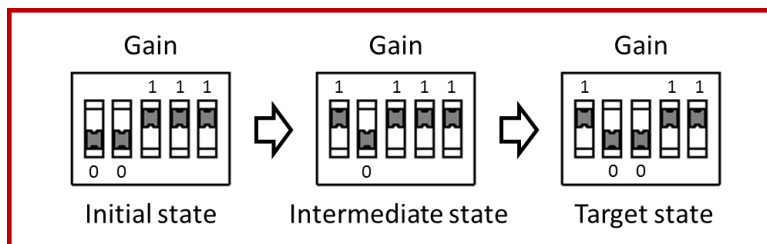

Figure 5: Example gain selection
- **When changing the gain, first set the required switches to 1, then change the switch to 0 if necessary. Otherwise there exists a theoretical risk of damage!** (see Figure 5)